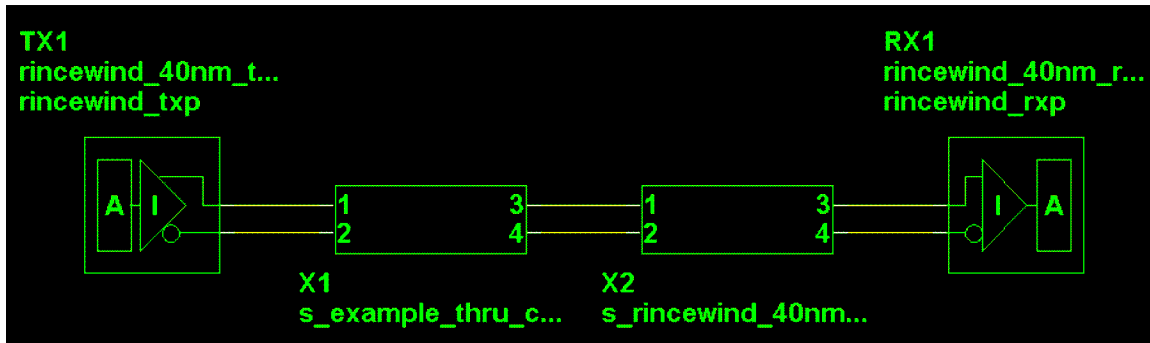

Figure 11. SiSoft QCD – Thru Simulation Schematic
3. Connect the elements as shown in Figure 11.